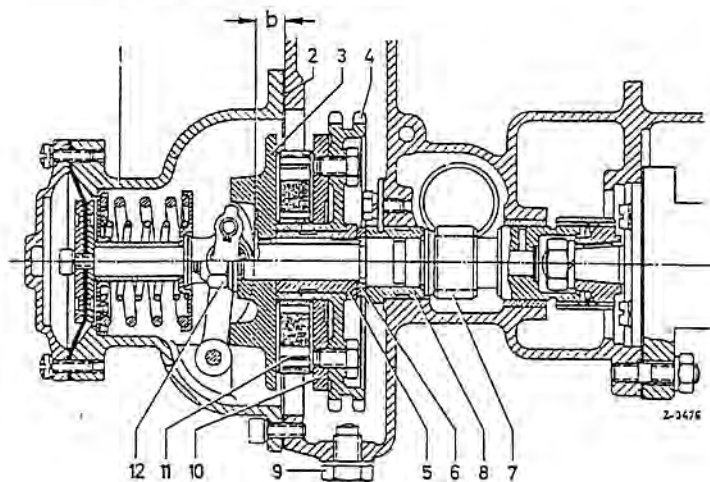

Fig. 18-6/11
On Model 300 SE the injection pump is driven by a single roller chain via the sprockets (3) and (17); the idling gear shaft (23) with idling gear (19) is driven by a twin roller chain (Fig. 18-6/9).